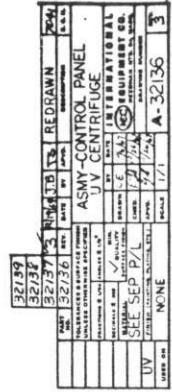

Figure 6. The Model UV Control Panel
8. CONTROL PANEL PARTS LIST (Refer to Figure 6)